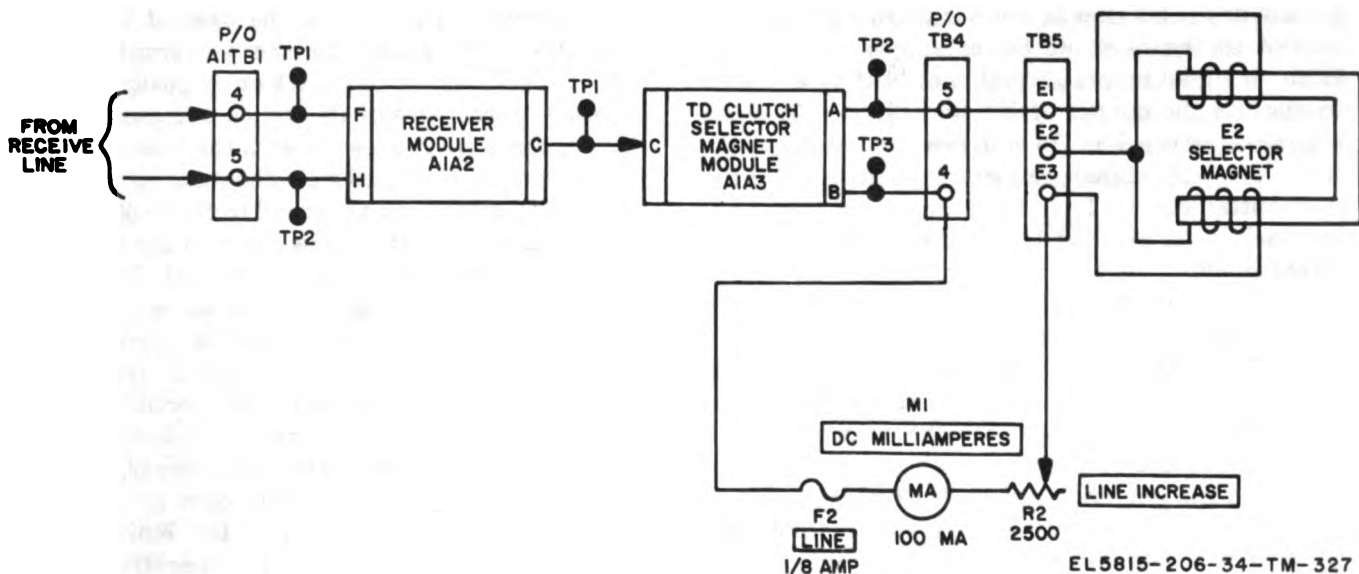

Figure 2-69. Page printer receive circuit, simplified schematic diagram, TT-698 (\*)/TG.
*b. Receive Circuit TT-698(\*)/TG (fig. 2-69).* The receive circuit is used to accept polar mark and space impulses from external signal lines connected to terminals 4 and 5 of terminal board A1TB1. The coded impulses are applied to the receiver module, which amplifies the impulses. The amplified impulses are sent to the TD clutch selector magnet driver module which controls the selector magnet, which in turn governs the position of mechanical parts within the selector mechanism.